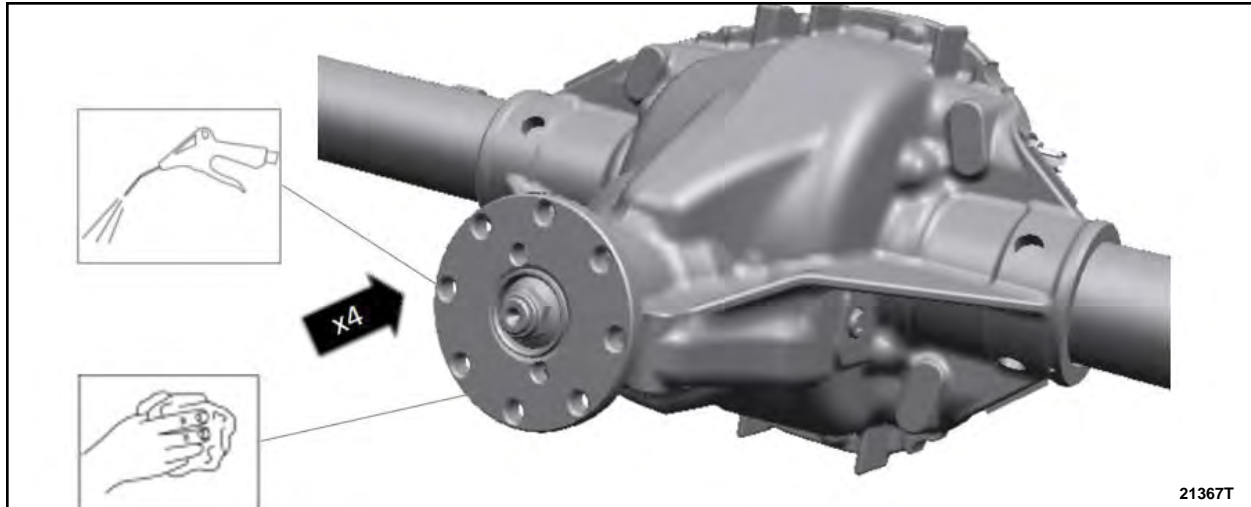

FIGURE 15
20. Using an air blow gun, remove any debris from threaded holes in axle flange. See Figure 15.